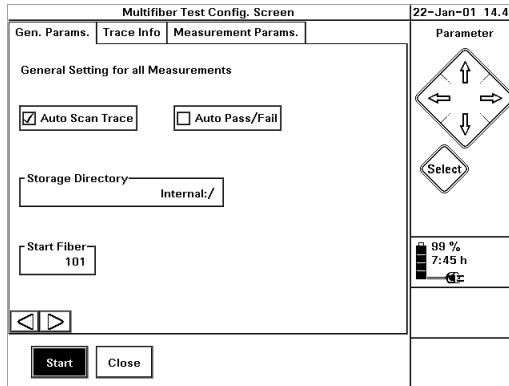

Figure 57 Multifiber Test Configuration screen
- 1 Select *Multi Fiber Test* from the Applications screen. You see the Mutifiber Test Configuration screen (Figure 57). The page that you see is the one visited last in this Configuration screen.
NOTE If you want to return to the Multi Fiber Test Configuration screen (Figure 57), select **Config**.